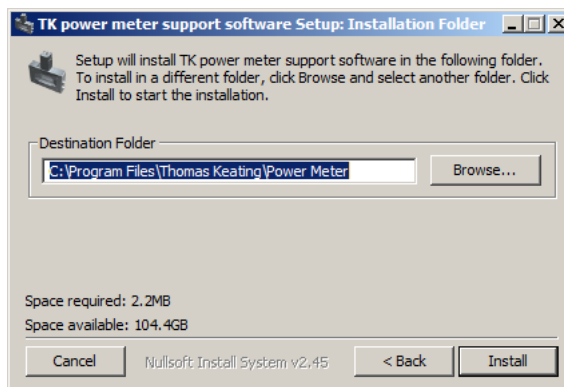

Figure A.13: Installation directory choice.
- A second panel (Figure A.13) allows the destination directory to be chosen.